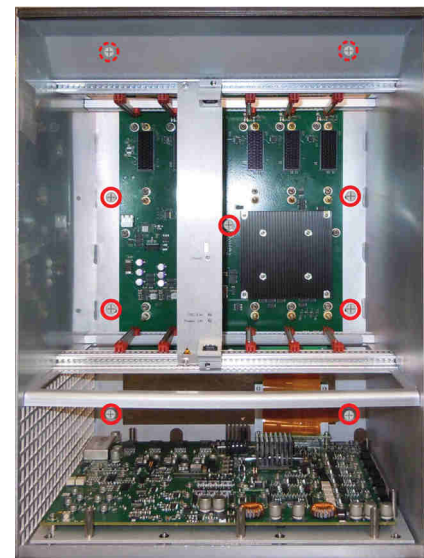
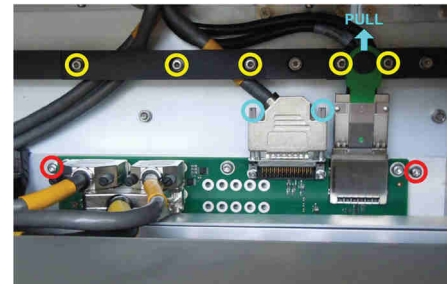

Fig. 10.24 Screws
Fig. 10.25 Support and cables
The location of these is shown with red circles in Fig. 10.24 \(p. 146\). The two upper screws (dotted red circles) are accessible above the Crate Assy (marked with red circles in Fig. 10.25 \(p. 147\)).
- 8 Using Allen 3 mm screwdriver (tools 1/3), remove 5 screws and washers holding two cable supports - shown with yellow circles in Fig. 10.25 (p. 147). Remove the two cable supports.
- 9 Referring to Fig. 10.25 (p. 147), pull the green ring upwards on the rightmost connector to release it from the Motherboard (light blue arrow).
- 12 Mount the connectors removed in step 9 and mount the cable supports removed in step 8 (Fig. 10.25 (p. 147)).